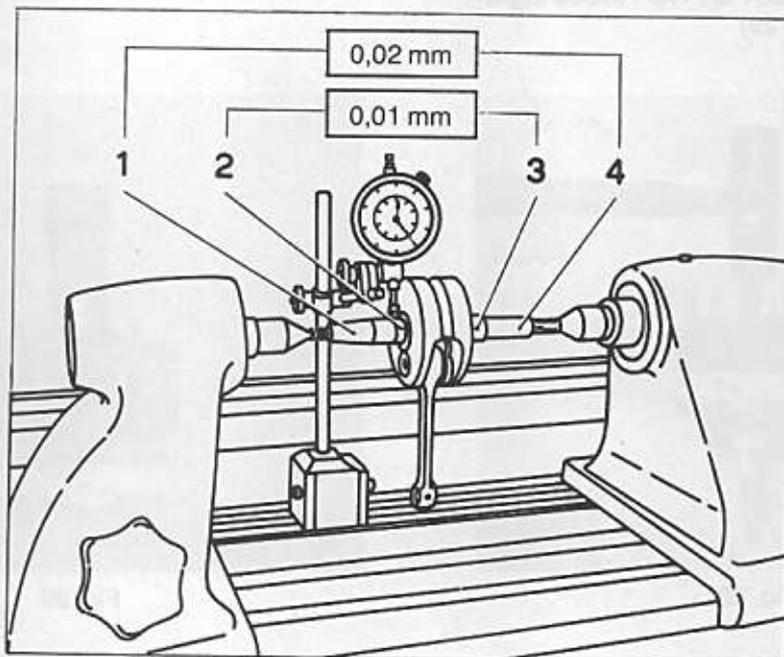

Fig. 34
3. A coaxial fitting of crankshaft halves is accomplished between the two tips (Fig. 34) by measuring at the indicated points.
3. Per il controllo del montaggio coassiale dell'albero motore eseguire la misurazione come indicato in Fig. 34